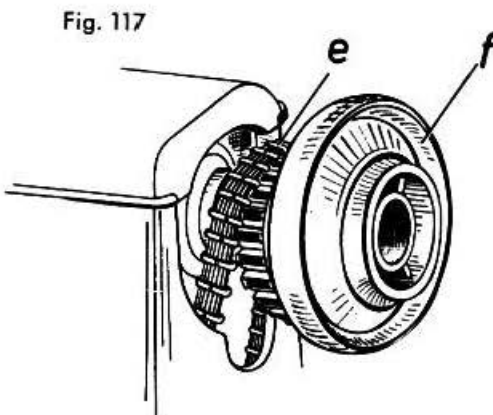

Fig. 117
7. Turn motor belt e so that the clip openings face out, push it over the arm shaft bushing and through the aperture into the arm standard (Fig. 117). Push power-drive balance wheel f on the arm shaft bushing, and mount the motor belt on the balance wheel sprocket. Replace parts a-c in reverse order to secure the balance wheel in position.